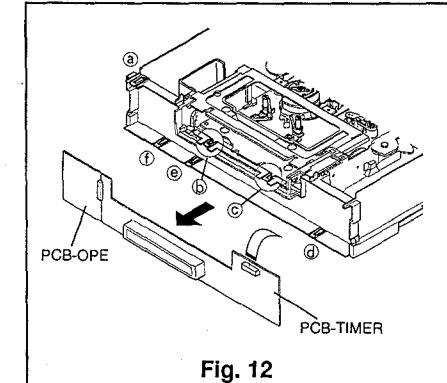

Fig. 12
- ③ Remove six catches (⑳~㉑) shown in Fig. 12 to remove the PCB-TIMER/OPE.